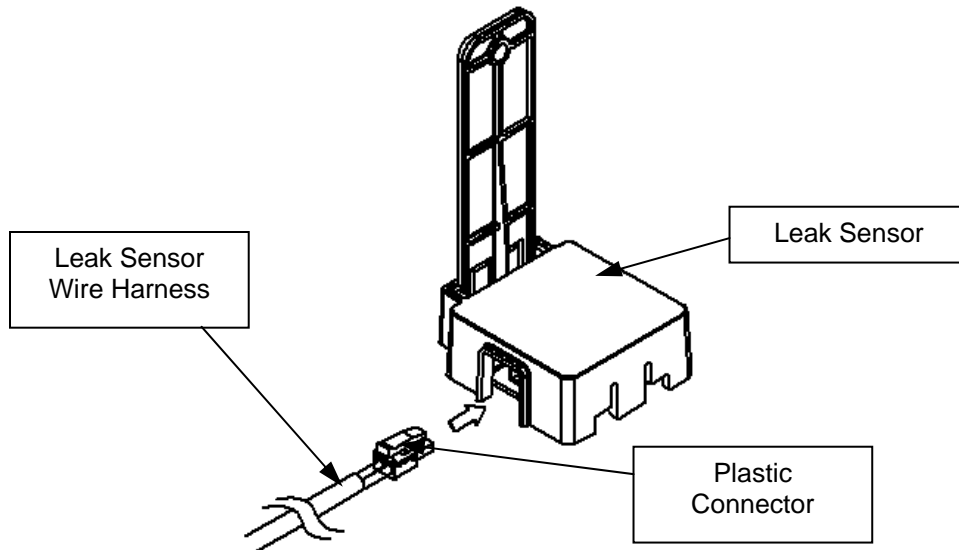

Figure 54
Step 3: Connect the Leak Sensor wire harness to the Leak Sensor (specifically the end with the plastic connector), as shown in Figure 54.